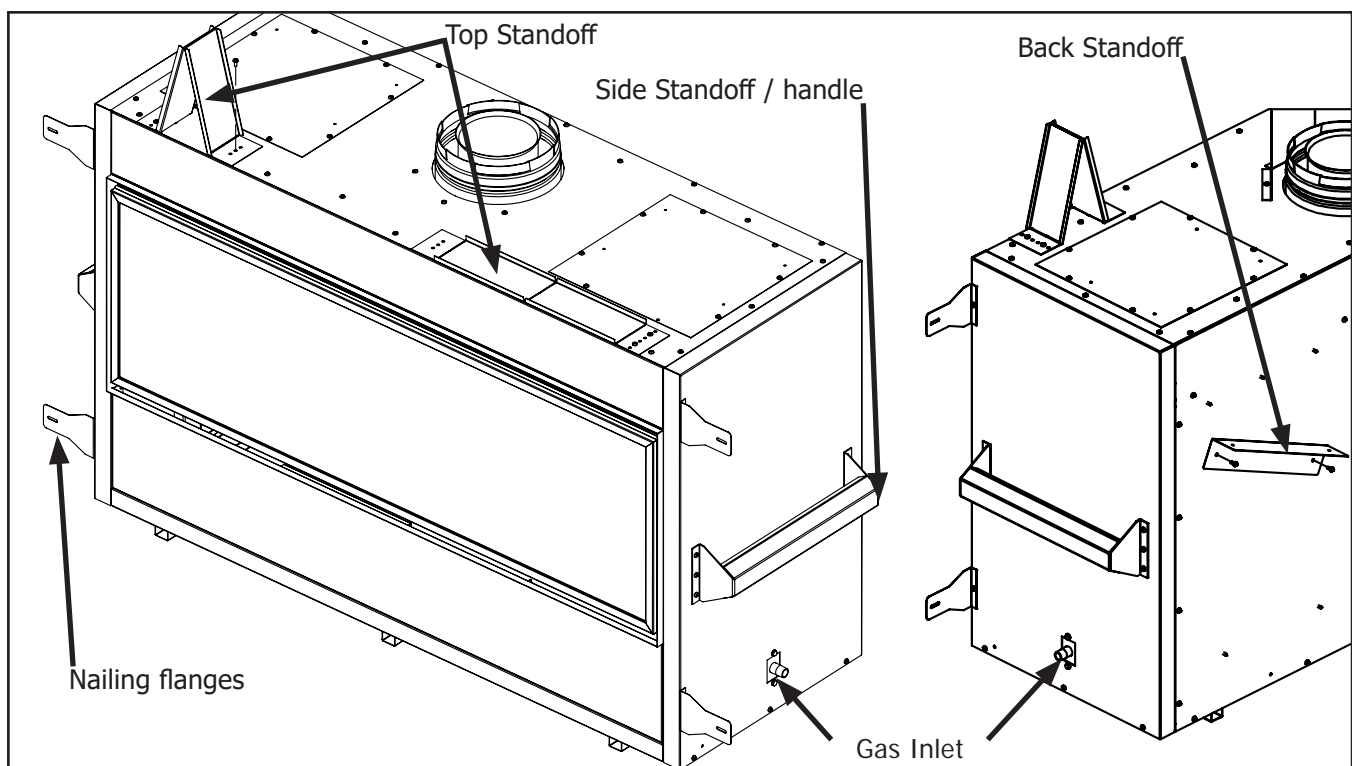

Figure 26: Fireplace Install Preperation
Take a minute to familiarize yourself with Figure 26 below.
- The top framing standoffs will need to be folded up and secured on one side with a T-20 screw, This can be seen in Figure 26.